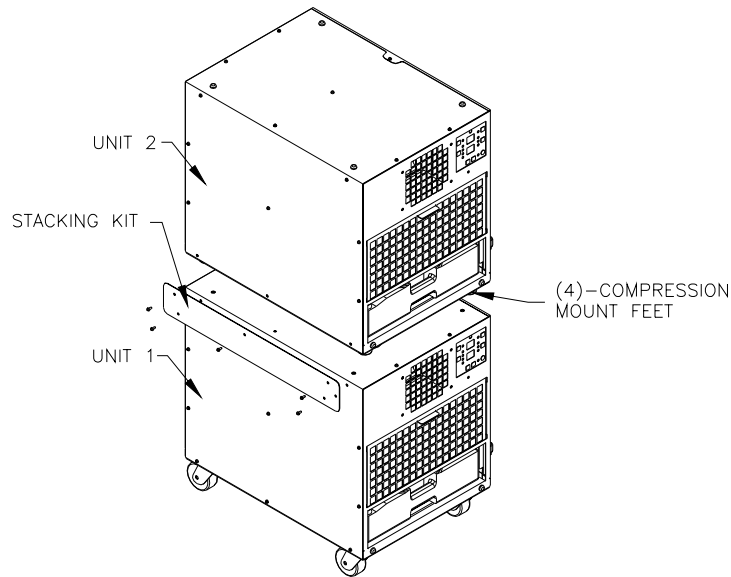

Figure 7
- Attach the Wheel Kit to the base panel of Unit 1. See Figure 7 & 8
- Attach the Stack Kit to the side panel of Unit 1 using the top (2) side panel screws. See Fig 7 & 8
- Attach the Feet Kit to the base panel of Unit 2. See Figure 7 & 8
- Remove Unit 2's bottom (3) screws on the side panel. See Figure 7 & 8
- Using (2) people lift Unit 2 so the feet are squarely on top of unit 1 until the bottom (3) holes of unit 2's side panel are lined up with the top (3) holes of the Stacking Kit. See Figure 7 & 8
- Using the (3) screws attach Unit 2 to the Stacking Kit. See Figure 7 & 8
- Attach the Cold Air Distribution Accessory (nozzle/diffuser/flange) to the front panel with the enclosed (4) screws on both Unit 1 & Unit 2. See Figure 7 & 8
- Wheel Kit (Figure 7)
- Feet Kit (Figure 7)
- Stack Kit (Figure 7)
- Handle Kit (Figure 7)